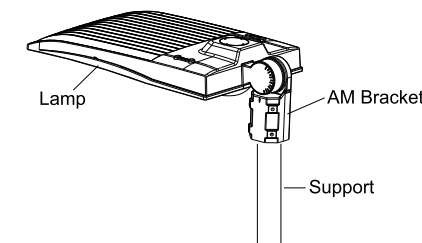

Figure 11
Step 2: Place the bracket into the pole and lock the four bolts. (Figure 11)